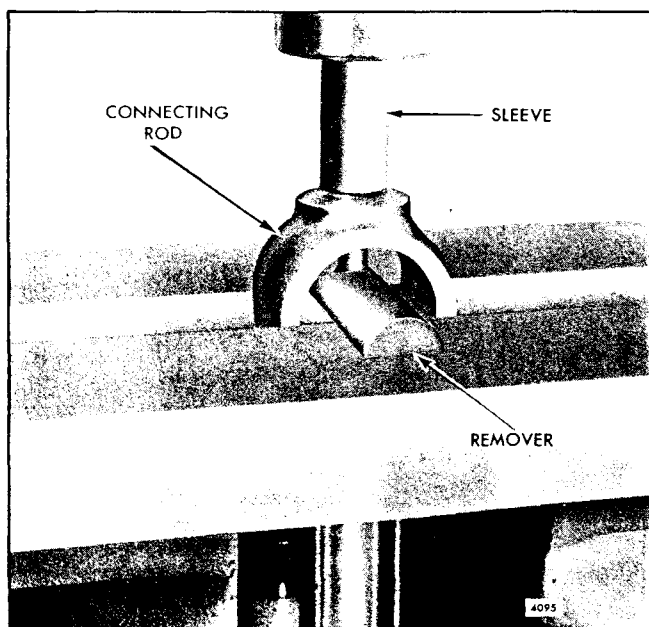

Fig. 5 - Removing Spray Nozzle from Connecting Rod
2. Place the connecting rod, spray nozzle remover J 8995 and a short sleeve in an arbor press as shown in Fig. 5.